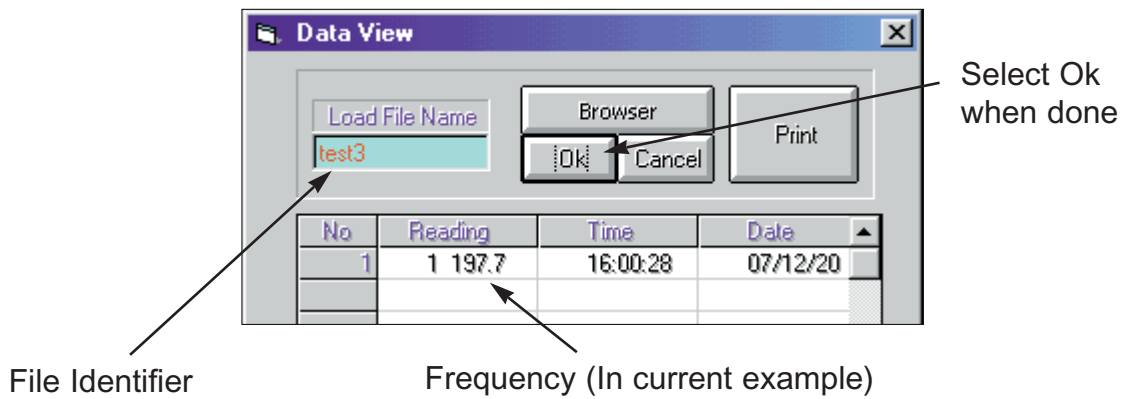

Figure D-4. DMM Data Load Example
3. Press **Load** for Channel 1, and enter the load identifier into the entry box. Use the Browser utility if needed. Then click **Ok**. (See example in Fig. D-4). The result will be the waveform previously recorded.